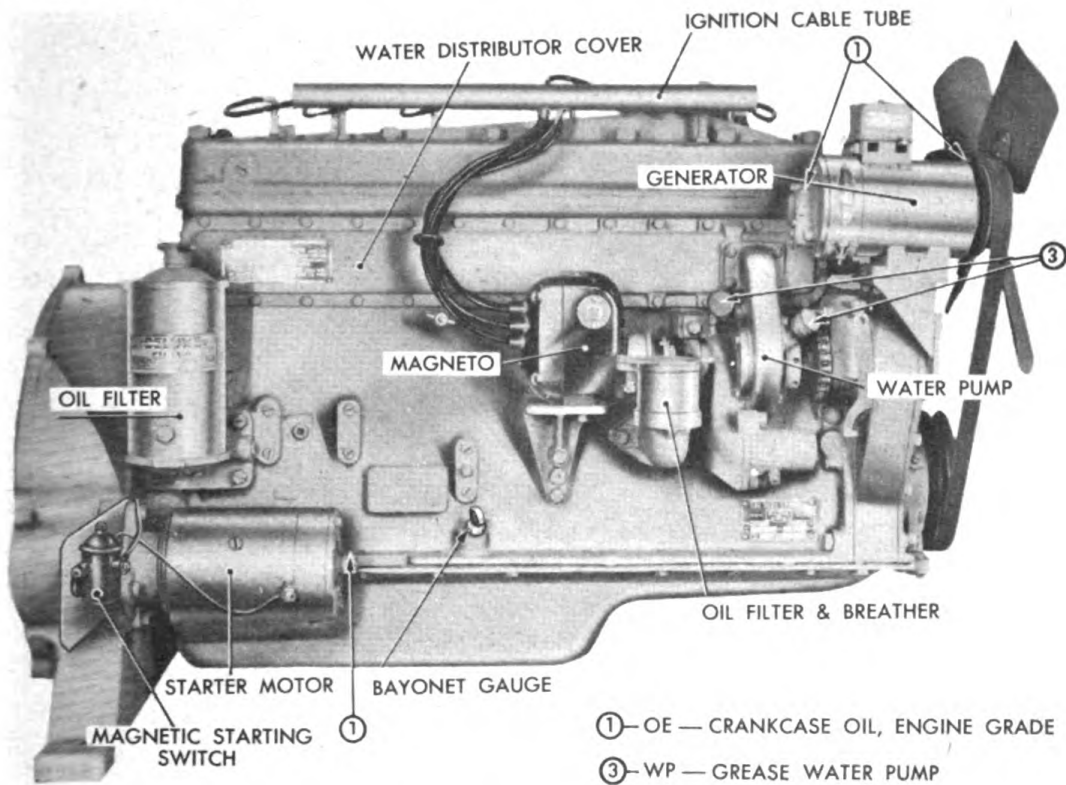

Figure 7. Points of lubrication for engine and accessories.
Figure 7 shows the points of engine and accessory lubrication.
E. Fill the crankcase with the recommended oil for the prevailing temperature. See chapter 3. Lubricate the governor link ball joints, governor throttle shaft and the carburetor throttle shaft. Apply #3 wheel bearing grease to the clutch housing bearing and the clutch pilot bearing. Oil the generator and grease the water pump. See Figures 7 and 8.
The bayonet gauge, or dip stick, or oil level stick is located at the right side of the engine, and it indicates the level of the oil in the crankcase. The level of the oil should show "F" or full. See Figure 7.